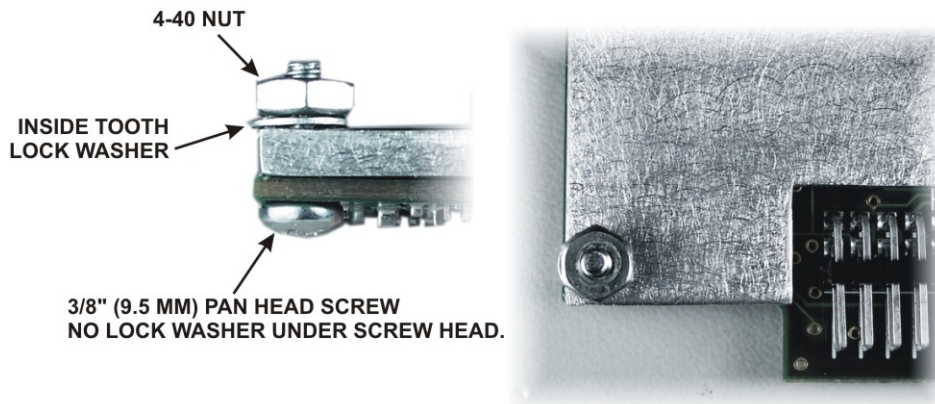

Figure 71 Stiffener Fastener on KSYN3 Board.
- Confirm that the screw, washer and nut are mounted on the bottom corner of the KSYN3 board as shown in Figure 71. Note that the nut is on the side with the stiffener plate.